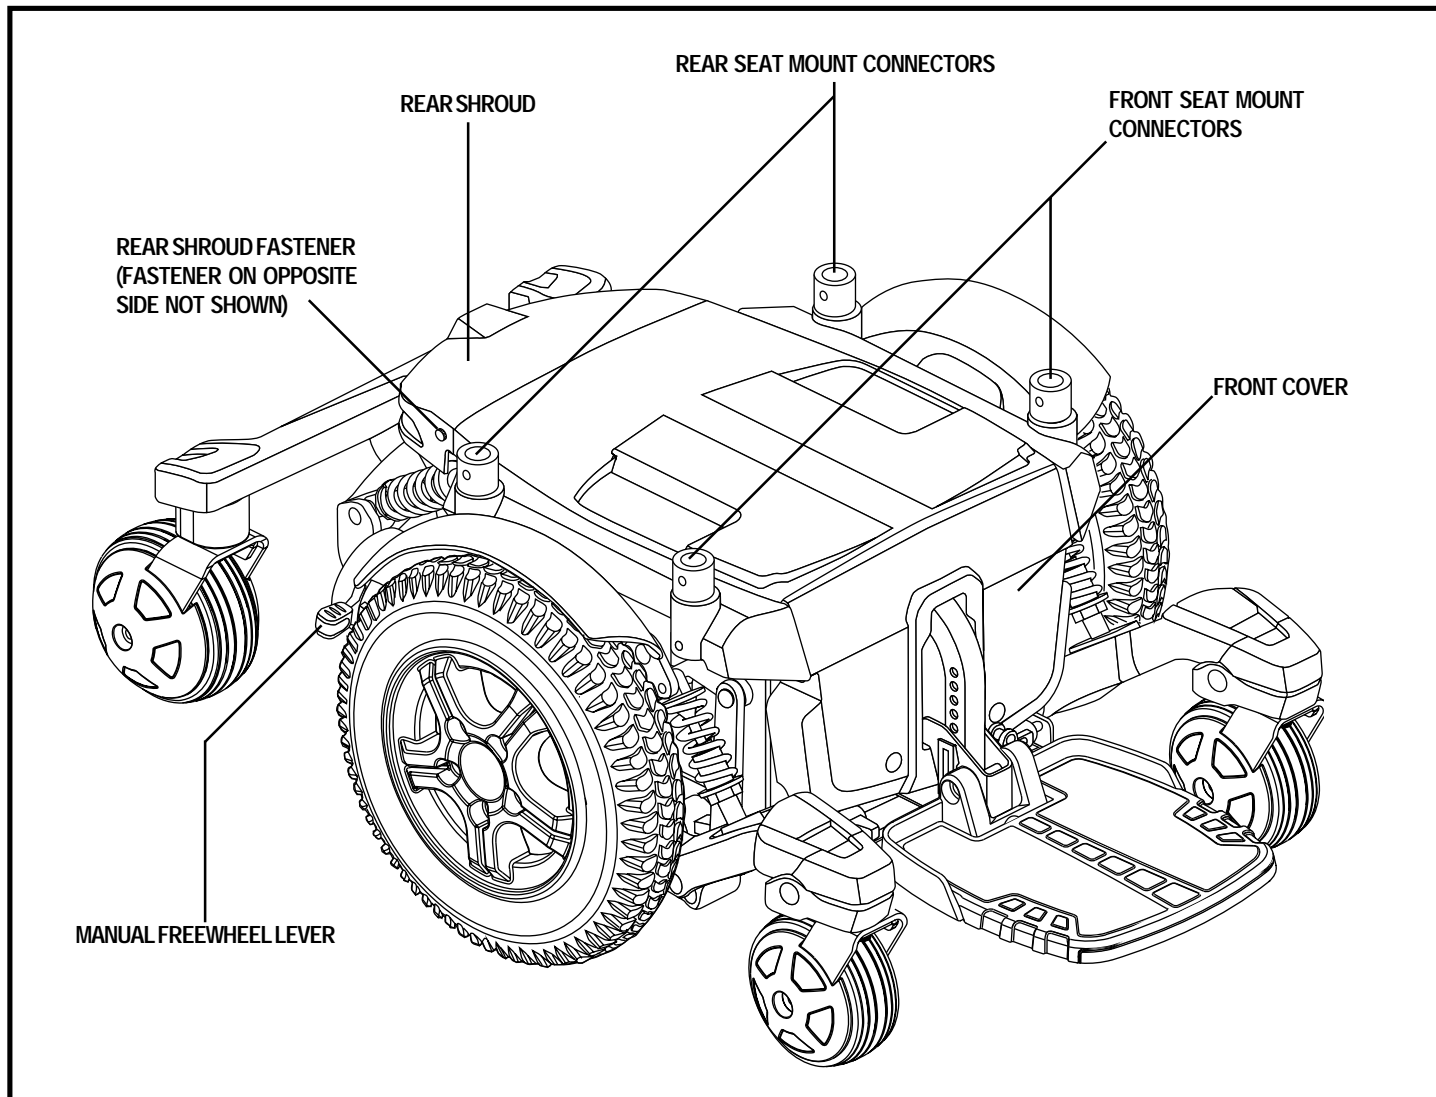

Figure 6. The Quantum 6000 Series Power Base
5. Loosen the rear shroud fasteners and remove the rear shroud. See figure 6.
7. Replace the rear shroud and tighten the rear shroud fasteners. See figure 6.
3. Loosen the rear shroud fasteners and remove the rear shroud. See figure 6.